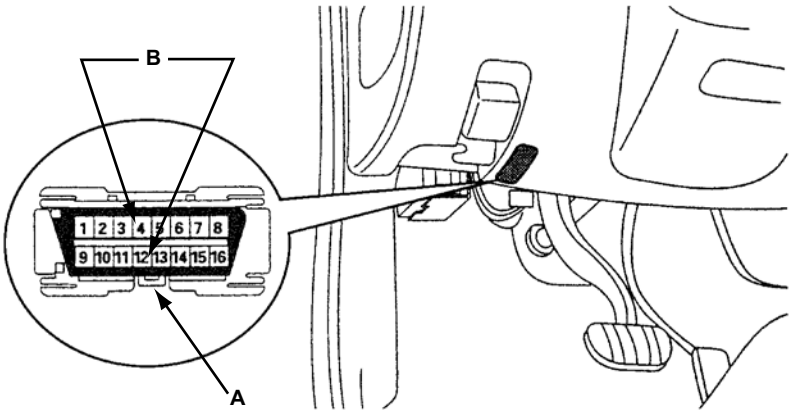

Figure 8-34 1996–2002 Passport with RWAL system
- Jump pins 4 and 12 as shown in Figure 8-34.